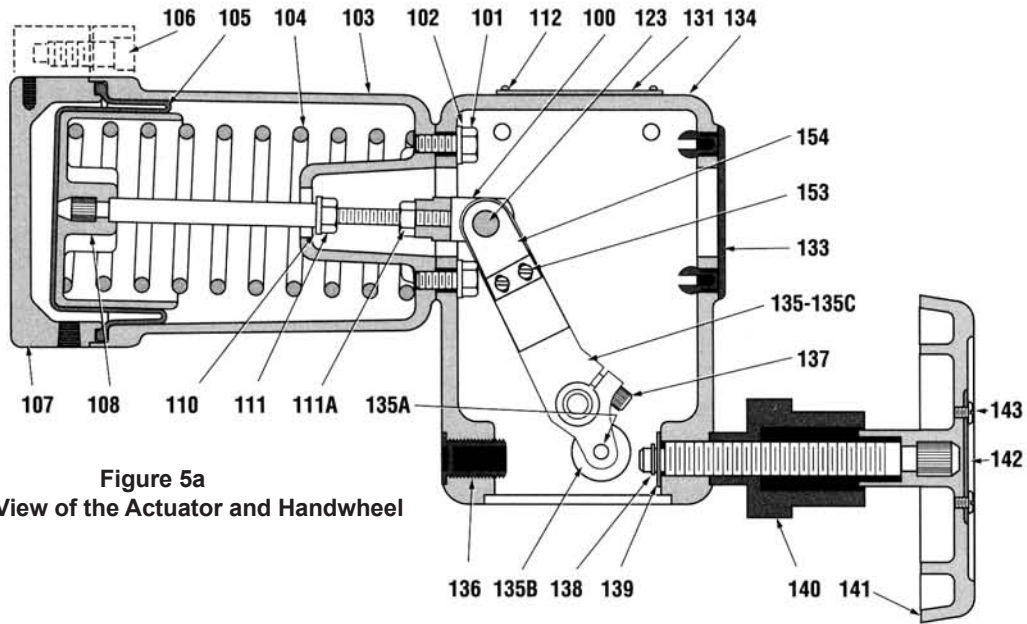

Figure 5a
6.1 Actuator Disassembly (Figure 5a and 5b)
7.2 Actuator Reassembly (Figures 5a, 5b & 6)